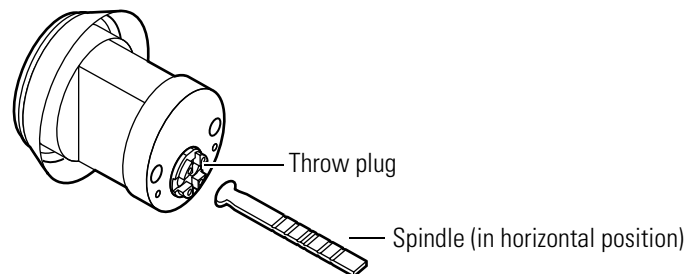

Figure 5.15 Reinstalling the spindle
2. Using the same orientation as the old spindle (horizontal or vertical), align the spindle so that it fits into the throw plug. See Figure 5.15.